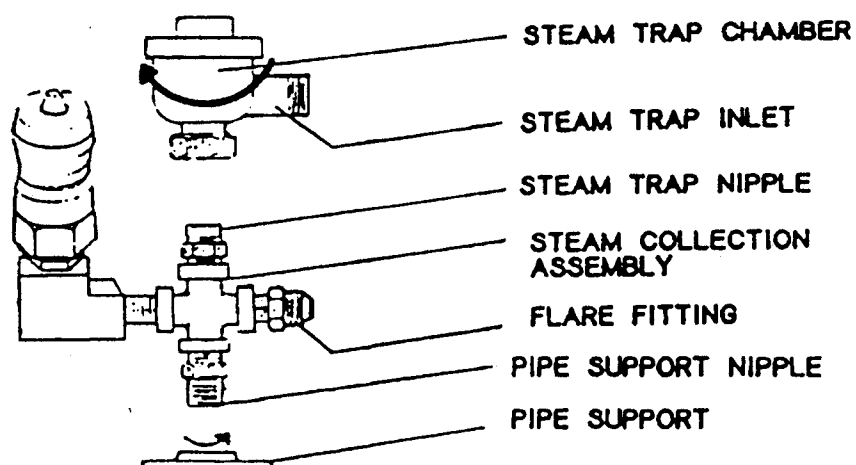
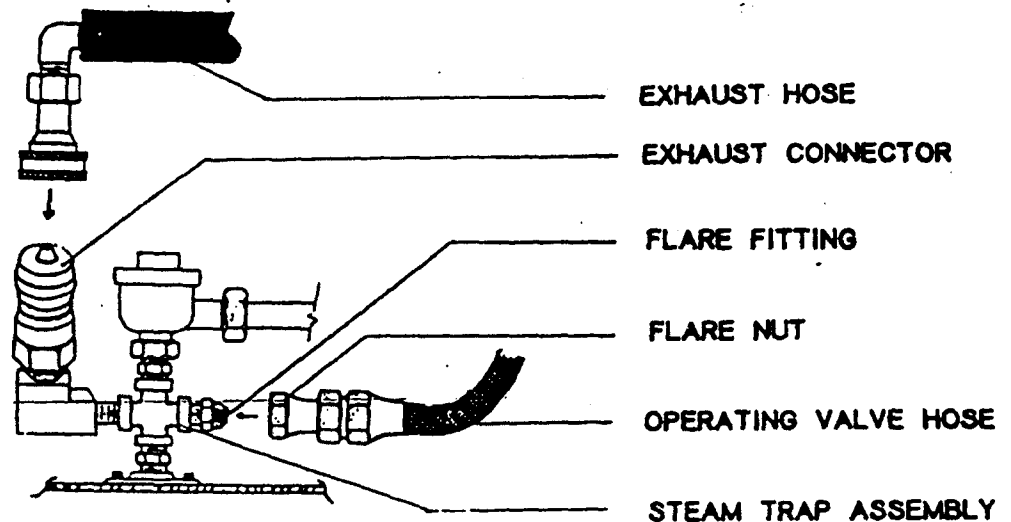

Figure 2-4. Steam Trap Mounting.
Figure 2-9. Operating Valve and Exhaust Hose Attachment.
e. Steam Trap Mounting: Thread the steam trap chamber and the pipe support onto the nipples of the steam collection assembly (figure 2-4) and tighten. Be sure to align the steam trap inlet and the pipe support so that the operating valve hose can be attached (figure 2-9).
j. Operating Valve Hose Attachment: Thread the flare nut at the loose end of the hose to the flare fitting of the steam trap assembly (figure 2-9). Tighten the flare nuts on both ends of the operating valve hose.
k. Exhaust Hose Attachment: Attach the exhaust hose to the exhaust collector (figure 2-9). (For directions on coupling procedure, see WRS Operator's Manual, section 2-3.i.).